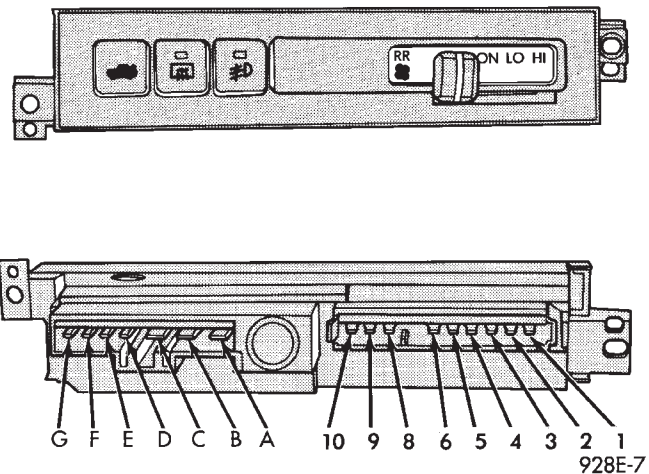

Fig. 3 Accessory Switch Carrier
(1) Remove the accessory switch carrier assembly from the instrument panel or console, see Group 8E, Instrument Panel and leave the switch connector plugged in (Fig. 3).
(2) Turn ignition ON.
(3) Using a DC voltmeter, with 0-15 range, check voltage at terminals B, D and A. (Figs. 3 and 4). Terminals B and D should confirm a voltage of 10 to 14 volts to ground. Terminal A should confirm voltage to ground. When terminals B and D show no voltage, trace circuit upstream of accessory switch carrier for problem, example; wiring cut, fusible link or circuit breaker inoperative, bulkhead connector not operative, etc.. If terminal A indicates voltage, place switch in Off position. If voltage at terminal A is still indicated or indicator lamp remains on, the accessory switch carrier should be replaced.
(4) If the relay checks out to this point, momentarily operate switch to ON position. The indicator lamp should come on and remain on for approximately 10 minutes. Terminal A should confirm volt-